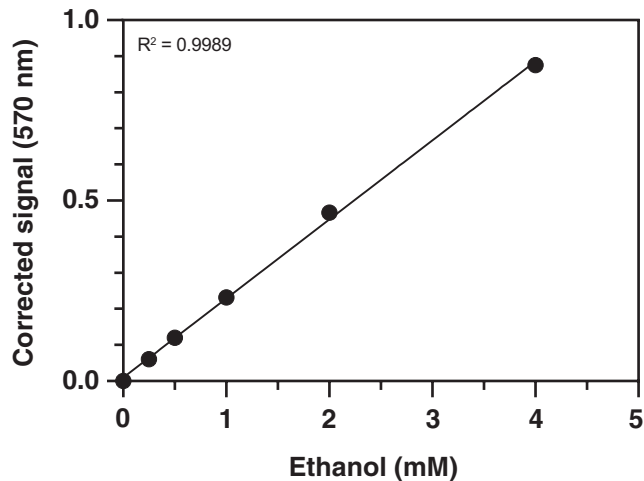

Figure 4. Ethanol standard curve
2. Subtract the average absorbance value of the zero-point standard (S6) from itself and all other standards and samples to obtain corrected signal (CS) values.
3. Plot the CS values of each standard as a function of the ethanol concentration of the standard. See Figure 4, on page 16, for a typical standard curve.